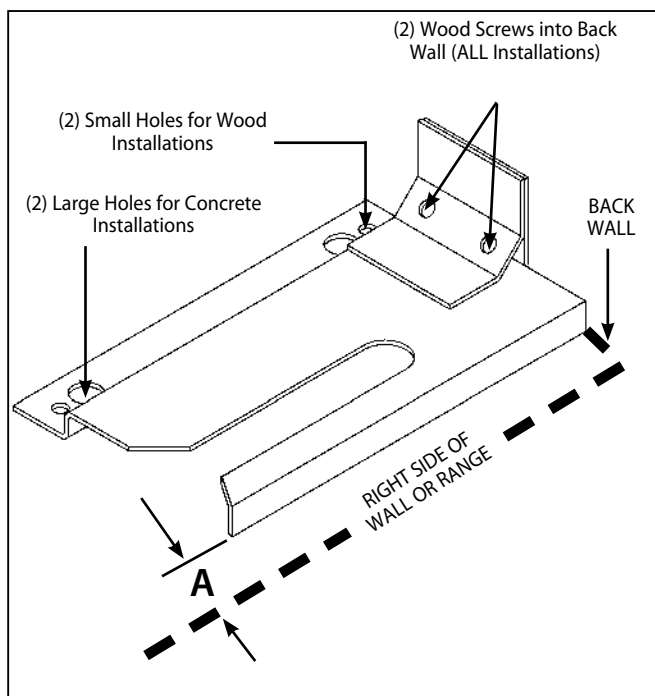

Fig. 8
Place the bracket against the back wall, into the right rear corner where the range is to be located. Leave a gap between the wall (or side of range) and the bracket (see Fig. 8). Drill (2) 1/8" diameter pilot holes in the center of the small holes. A nail or awl may be used if a drill is not available. Fasten the bracket securely to the floor and wall.